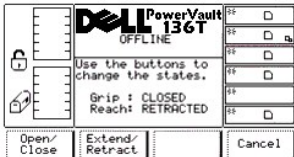

Figure 96. Service > Library > Diags > Fingers > Step > Gripper Finger Dialog
- 1 If the button beneath the **OK** softkey is pressed, the follow on dialog is displayed. Refer to Figure 96.